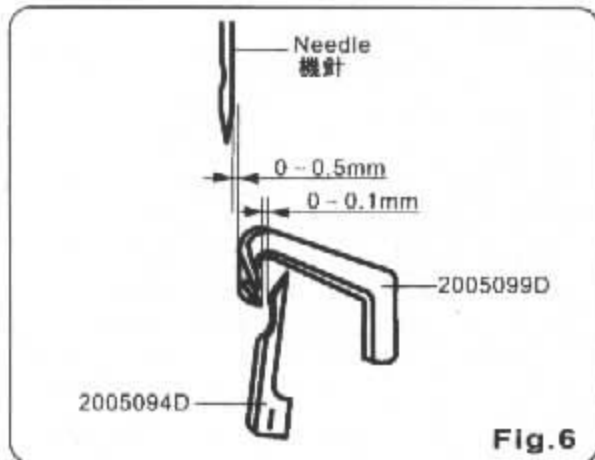

Fig.6
Turn pulley clockwise further, and you will see lower looper moves to the right while upper looper goes to the left. In this case, note that upper looper point passes the concave part of lower looper (on the far side), as shown in (Fig. 6) Check the clearance between the concave part of lower looper and upper looper point. The clearance should be 0 to 0.1mm.
- Confirm that the clearance between needle and upper looper is 0 to 0.5mm at the time when needle moves downwards and passes behind upper looper (2005099D), while turning pulley clockwise (Fig. 6)